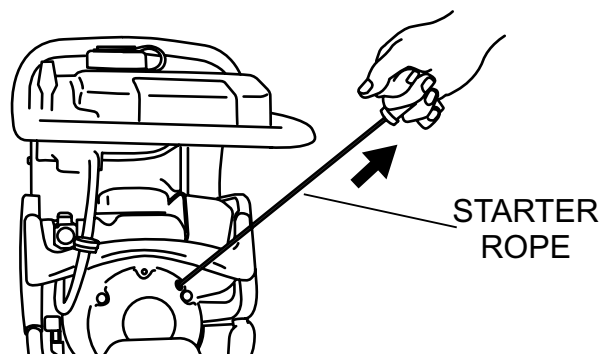

Figure 9. Recoil Starter
4. Grip the starter rope handle (Figure 9) and pull it until you feel a slight resistance. Then pull sharply and quickly. Return the handle to the starter case before releasing.